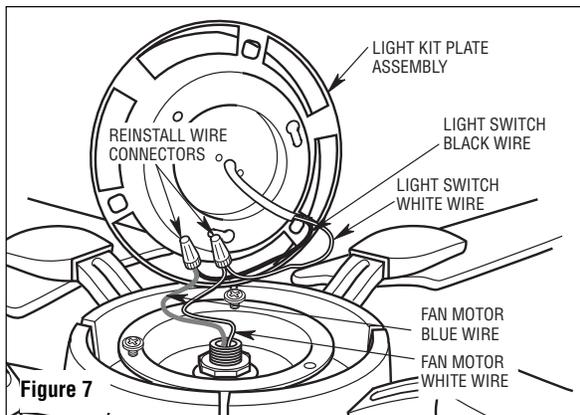

Figure 7
5. Connect the white wire from the ceiling fan to the white wire of the light kit plate (Figure 7). Connect the blue wire from the ceiling fan to the black wire of the light kit plate. Use wire connectors (previously removed) to make connections.